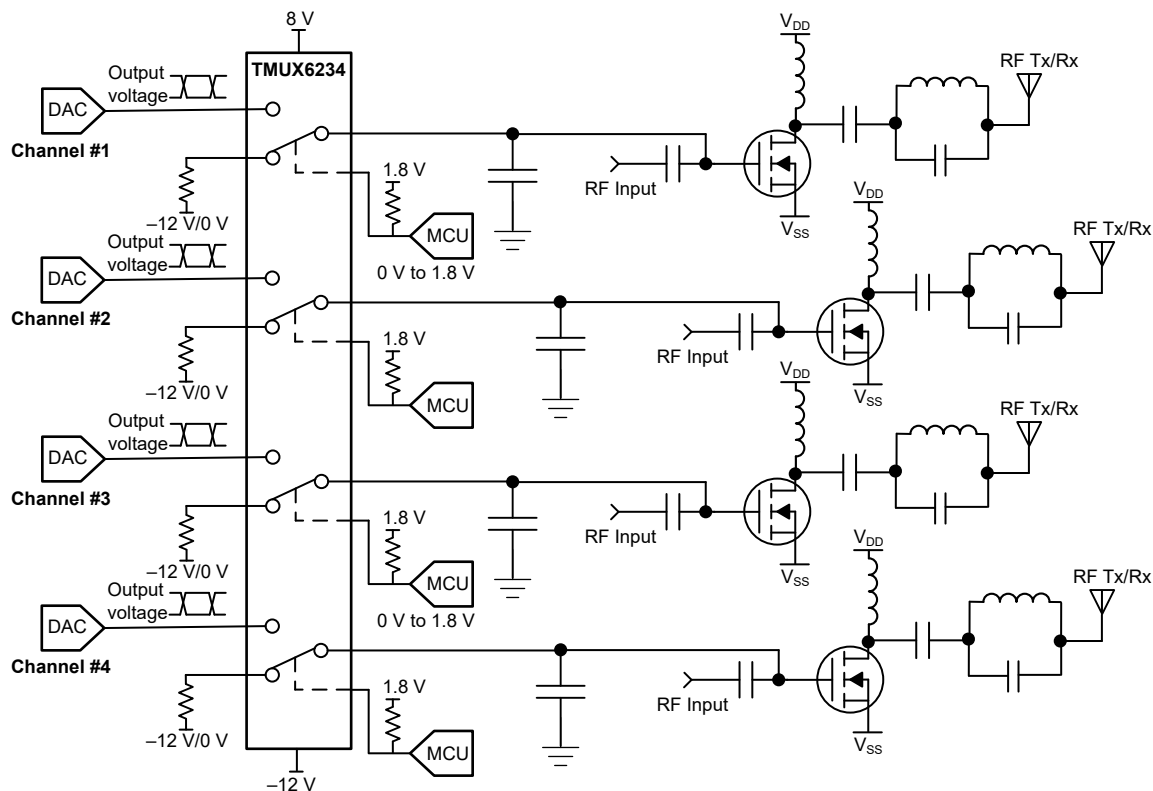

Figure 8-1. Power Amplifier Gate Driver
Figure 8-1 shows the TMUX6234 configured for control of a multi-channel power amplifier application.
The application shown in 図 8-1 demonstrates how to toggle between the DAC output and a low signal voltage for control of a power amplifier. A device such as the TMUX6234 that supports multiple supply voltage combinations allows the system designer to use a single switch across platforms with different power amplifier topologies such as GaN or LDMOS implementations. Using a multi-channel switch like the TMUX6234 allows the system to improve density by implementing a smaller solution size. Multiple channels of the TMUX6234 can be utilized to switch additional stages of a single power amplifier channel. Or multiple channel switches can be used on different power amplifier stages in high channel count communications equipment such as a 32 transmit (TX), 32 receive (RX) active antenna system mMIMO (AAS). Each channel of the TMUX6234 has independent control signals allowing for overall system flexibility. The DAC output is utilized to bias the gate of the power amplifier and can be disconnected from the circuit using the select pins of the switch or the global enable pin. The TMUX6234 can support 1.8 V logic signals on the control input, allowing the device to interface with low logic controls of an FPGA or MCU. All inputs to the switch must fall within the recommended operating conditions of the TMUX6234 including signal range and continuous current. For this design with a positive supply of 8 V on V_{DD} , and negative supply of -12 V on V_{SS} , the signal range can be 8 V to -12 V. The maximum continuous current (I_{DC}) is captured in the *Recommended Operating Conditions* table for a range of supply voltage cases.